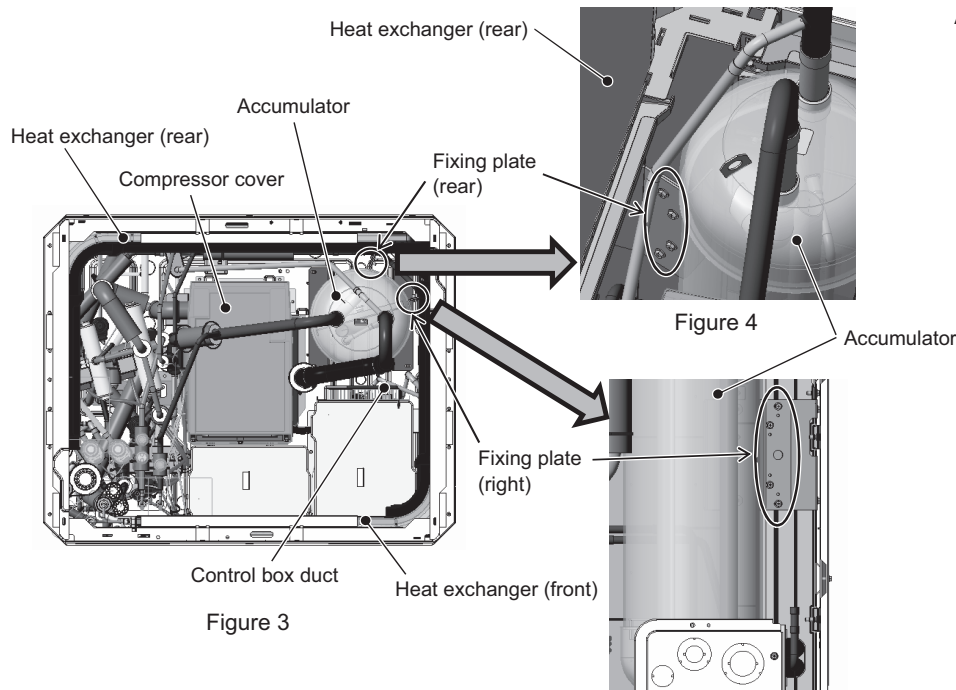

Figure 3
- (5) Unscrew the four screws from the right accumulator fixing plate. (See Figures 3 and 5.)
- (6) Unscrew the four screws from the rear accumulator fixing plate. (See Figures 3 and 4.)